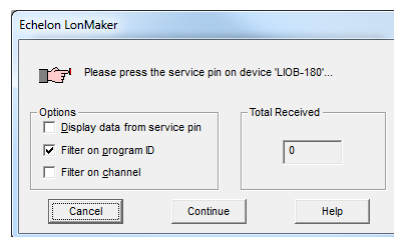

Figure 104: Wait for the service pin from the device
- Then the service pin requestor opens as shown in Figure 104. Press the status button on the replacement device.